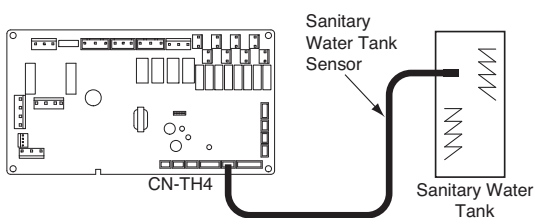

Fig. 1
Step 5. Find sanitary water tank sensor. Plug it to 'CN_TH4' (Red Connector) of the Main PCB assembly(Heater). The sensor should be mounted correctly to the sensor hole of sanitary water tank. Like below figure. 1